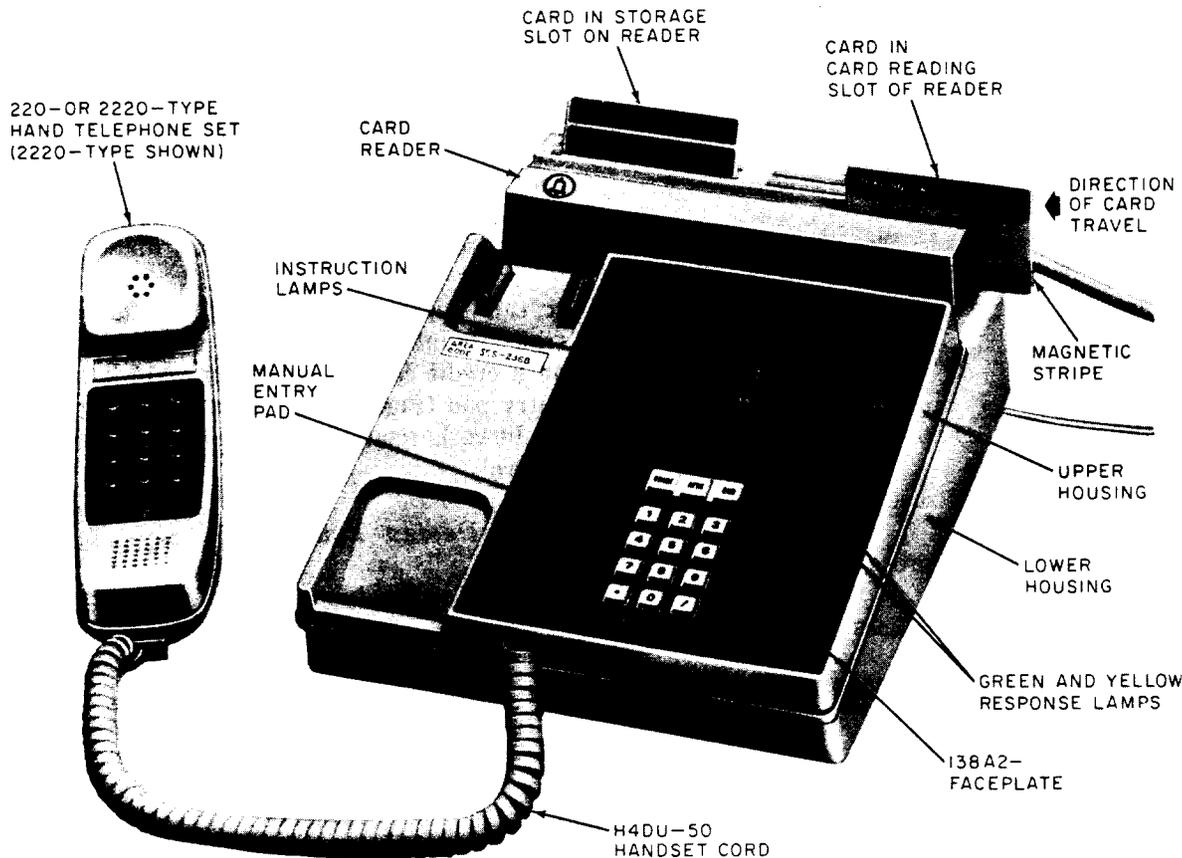

Fig. 1—5000AM Transaction I Telephone Set Base Equipped With 220- or 2220-Type Hand Telephone Set
2.01 The 5000AM Transaction I telephone set base, equipped with a 220- or 2220-type hand telephone set (Fig. 1) provides the standard features of a single line rotary or TOUCH-TONE® telephone set.
It can also automatically dial and electronically transmit information, read from a magnetic stripe on a credit card, or keyed on a 15-button manual entry pad (Fig. 1) to a data center for immediate credit authorization, check verification, or inventory control.